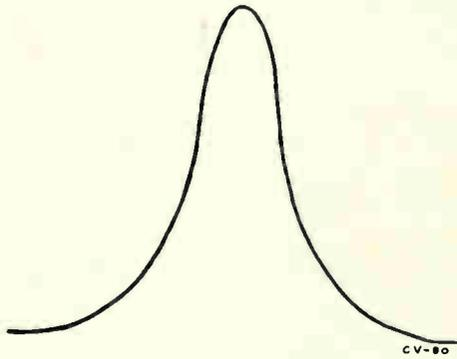

Figure 17—Response Curve
11. Adjust the phase shifter until the trace illustrated in Figure 17 is obtained.
12. Slowly increase the frequency of the signal generator and note in which direction the trace of Figure 17 moves.